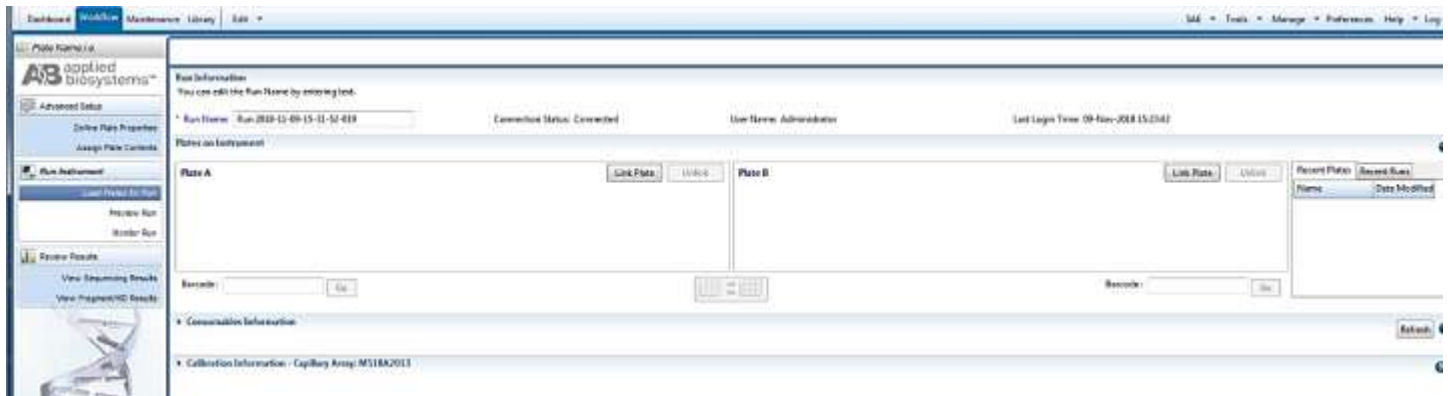

Figure 14- Screenshot for the “Run Information” window on Applied Biosystems 3500 Data Collection software
8. In the Run Information window, give a Run name (Figure 14). Select “Start Run” after loading the plate.